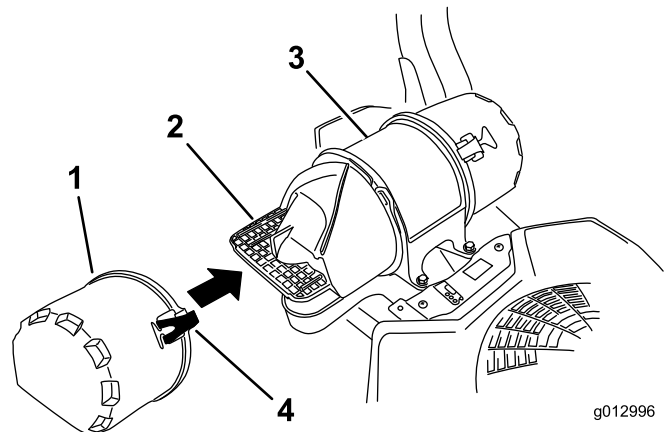

Figure 43
3. Release the latches on the air cleaner and pull the air inlet cover off the air cleaner body (Figure 43).
5. Install the air inlet cover and secure it with the latches (Figure 43).